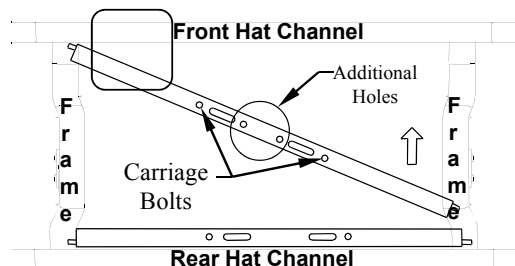

Figure 3
3. Place 5/8" GR8 carriage bolts from the 9460/9470 fastener kit into the square holes on the forward and rearward cross members from the top pointing towards the ground. The forward cross member has two additional holes (see figure 3).